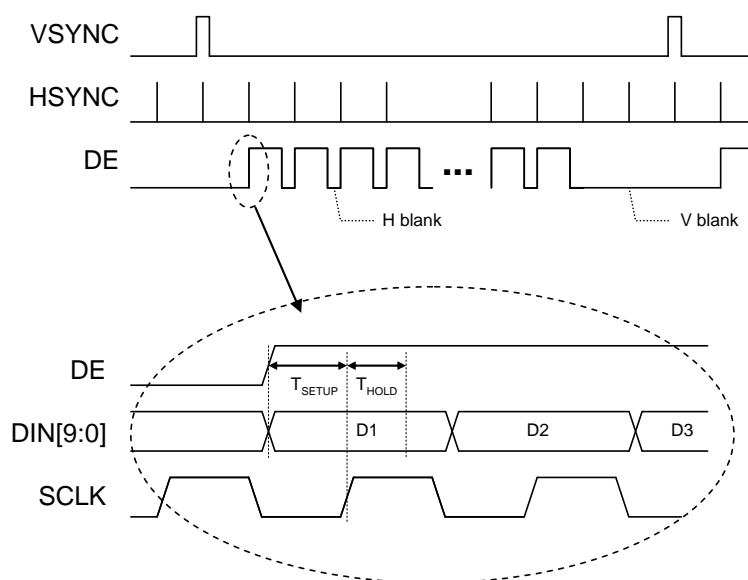

Figure 4 : Input Data timing diagram.
The 30-bit digital input port is comprised of three 10-bit data busses that make up the RGB data inputs. Separate synchronization signals (VSYNC and HSYNC) and the pixel clock (SCLK) are to be provided by the external video source. The data valid signal (DE) is used to signal the start of loading a row of data into the internal line memory. An active ENABLE signal is required for the Stereovision mode (inactive for all other modes, except Interlaced Video). The timing diagram for the input data bus is shown in Figure 4.